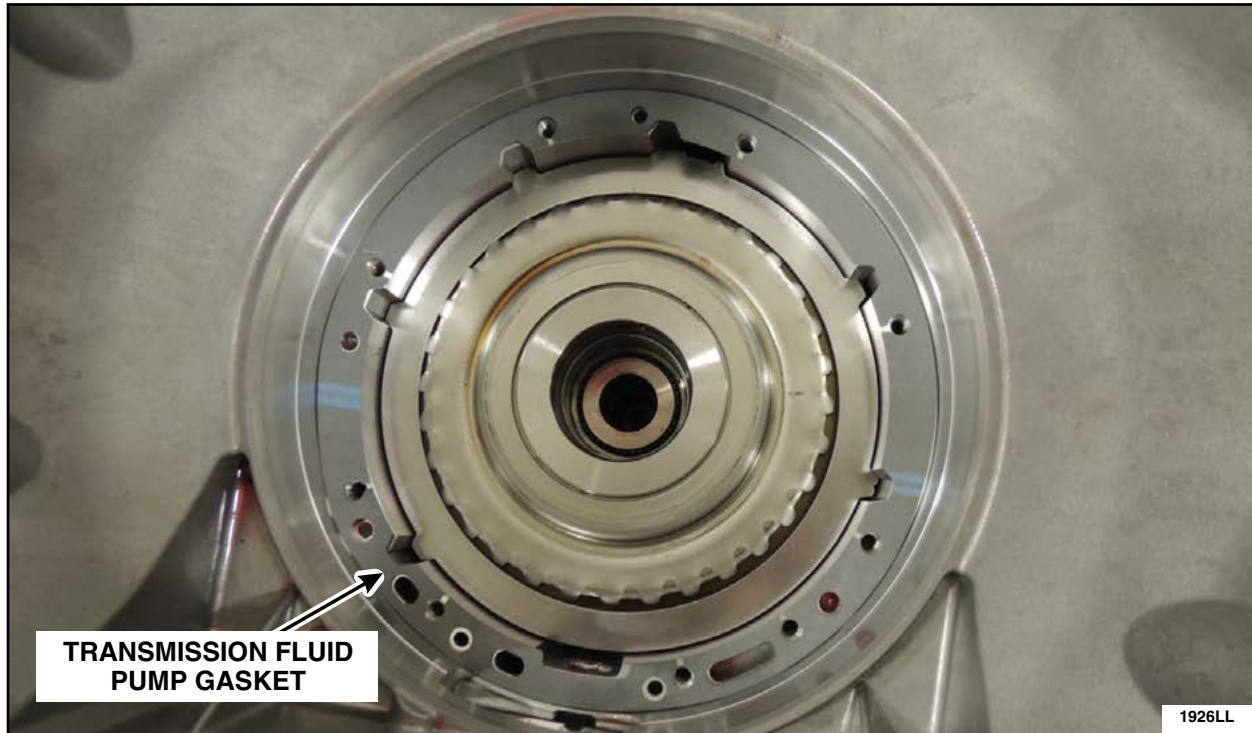

FIGURE 37
34. Install a *new* transmission front pump gasket. See Figure 37.